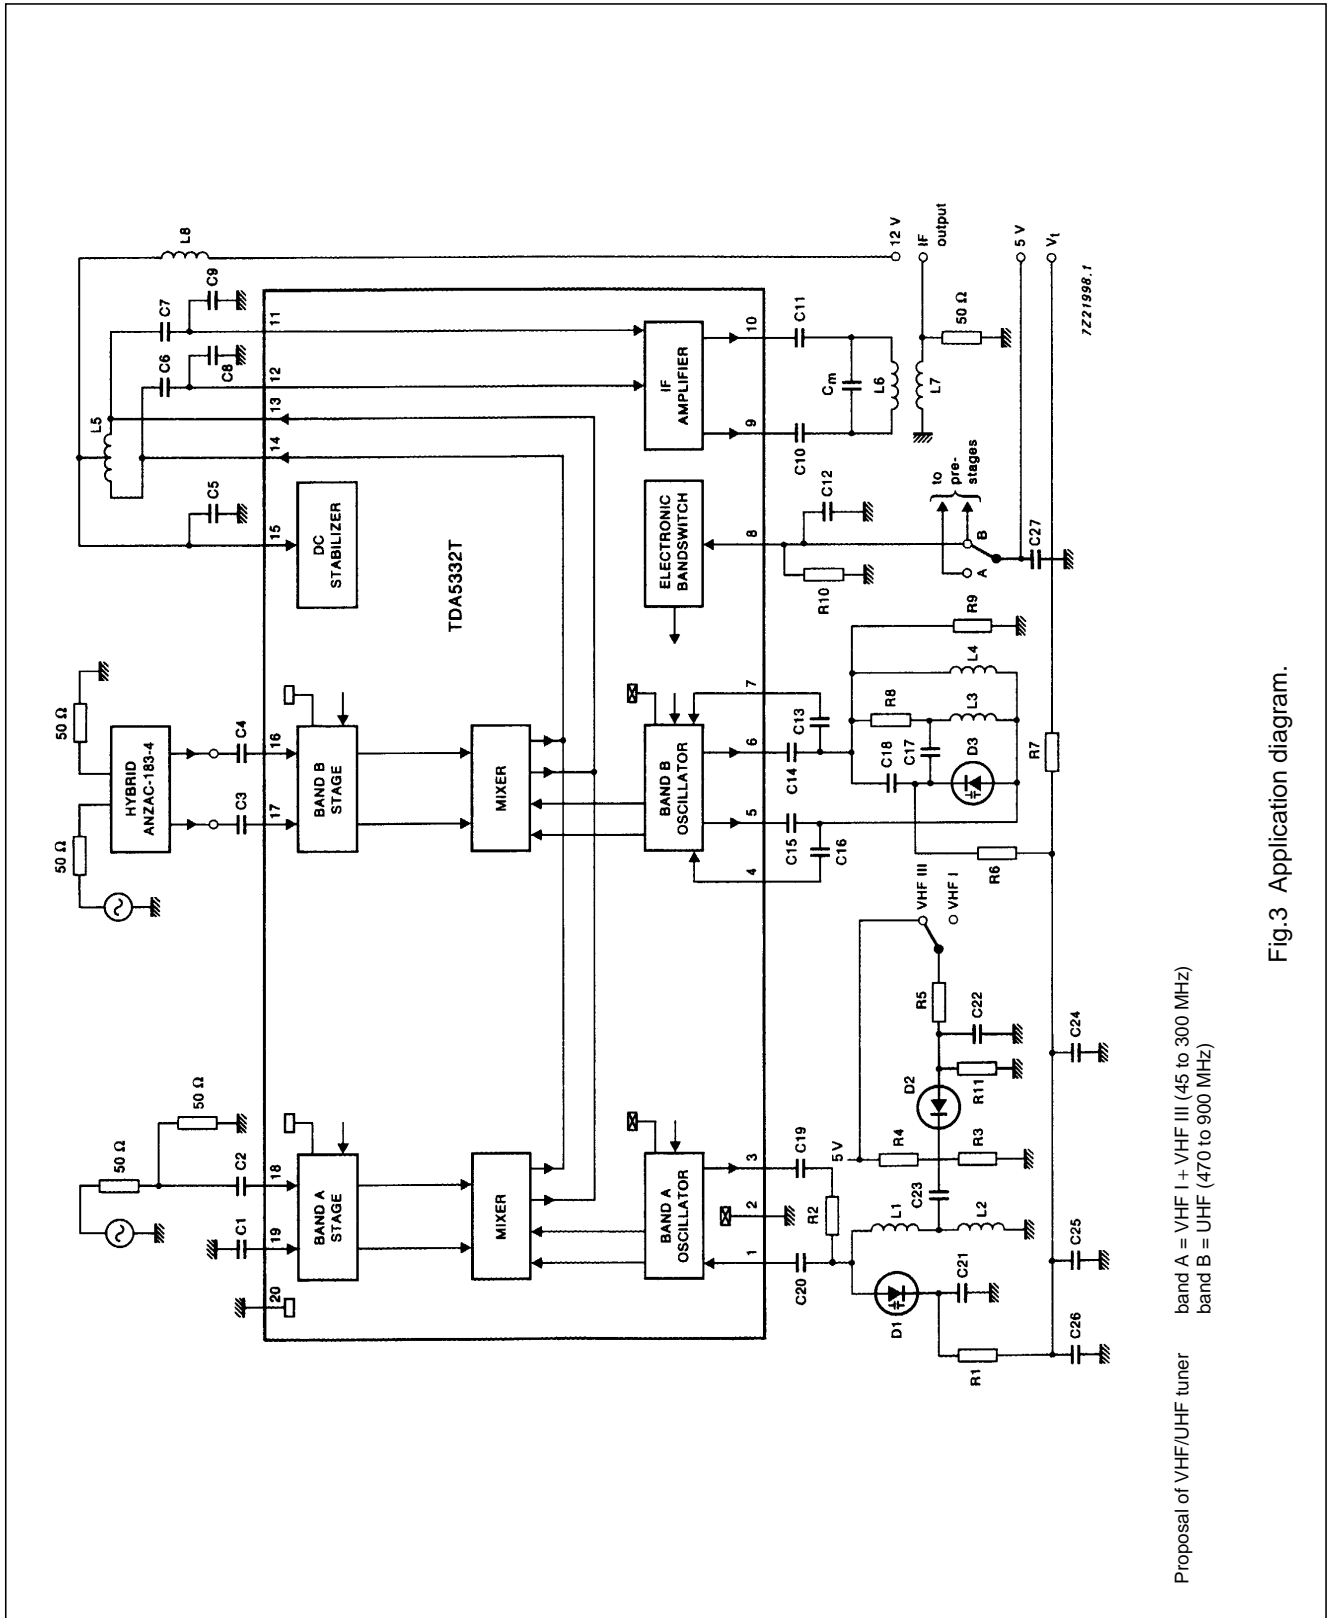

Fig.3 Application diagram.
$V_P = 12\text{ V}$; $T_{amb} = 25\text{ °C}$; all voltages are referenced to ground (pins 2 and 20); measured in Fig.3; unless otherwise specified.
Band A mixer (including IF amplifier)	measured using circuit shown in Fig.3
- The gain is defined as the transducer gain (measured in Fig.3) plus the voltage transformation ratio of L6 to L7 (6:1, 16 dB).